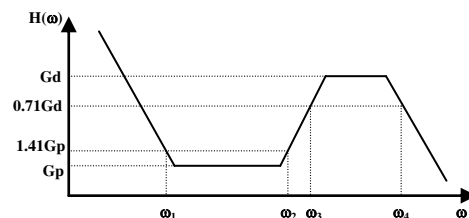

Figure 14. Transfer Function of the Compensation Network
The transfer function of the compensation network, defined as $H(\omega)=IDR(\omega)/TMS(\omega)$, is shown in Figure 14.
- d. $C_D \times R_I$ determines the corner frequency, $\omega_2 = 1/(C_D \times R_I)$, where the differential component starts picking up (see Figure 14), as the frequency goes up.
h. The evaluation schematic is given in Figure 14.